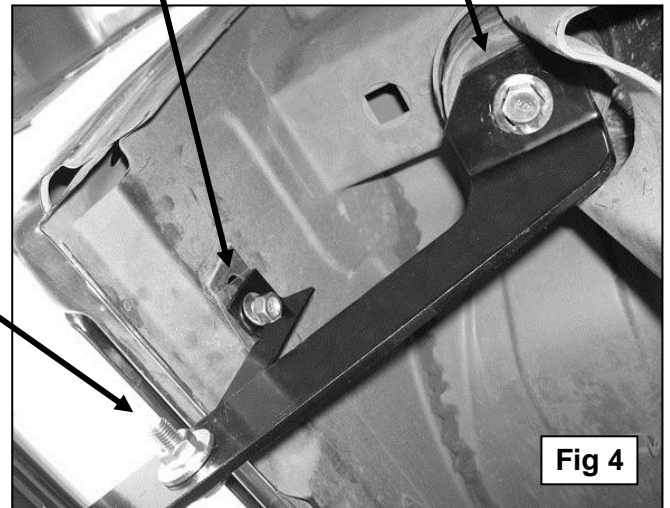

Fig 4
7. Next, move to the rear Mounting Bracket location. Remove the tape covering the hole in the inner rocker panel and install (1) Bolt Plate as described in **Step 5**. Locate the driver side rear Support Bracket (short) and attach it to the Bolt Plate with (1) 10mm Lock Washer, (1) 10mm Flat Washer and (1) 10mm Hex Nut, **(Figure 4)**. **NOTE:** Place Support Bracket against the front facing side of the Mounting Bracket with the bent tab facing towards the **rear** of the vehicle. Repeat **Step 7** to attach the lower end of the Support Bracket to the Mounting Bracket, **(Figure 4)**. Snug but do not tighten hardware at this time